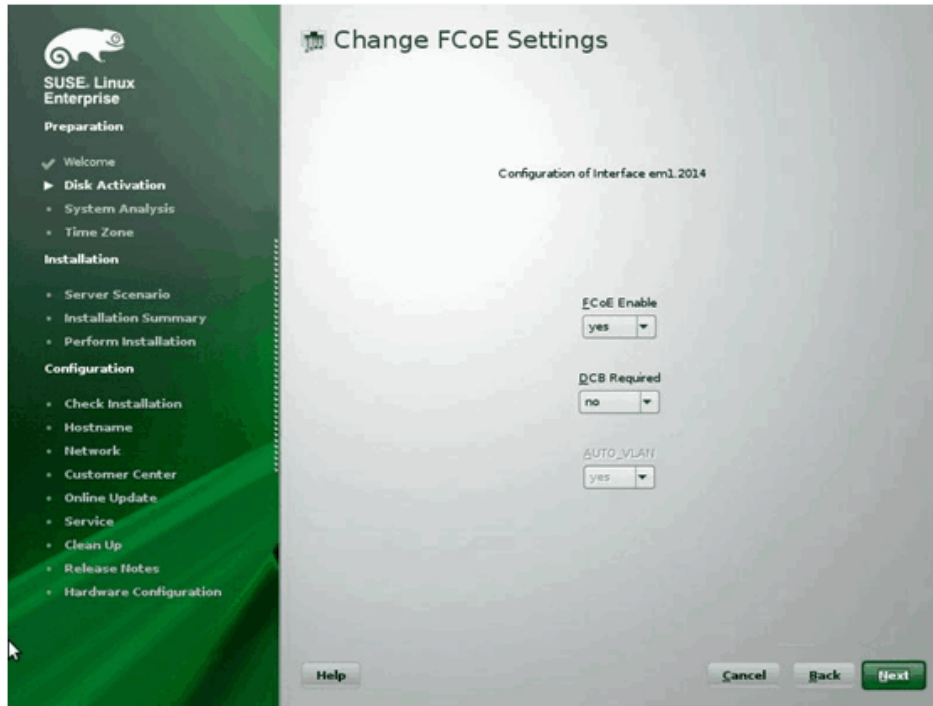

Figure 14-16. Changing FCoE Settings
- b. On the Change FCoE Settings window (Figure 14-16), ensure that **FCoE Enable** and **Auto_VLAN** are set to **yes**.